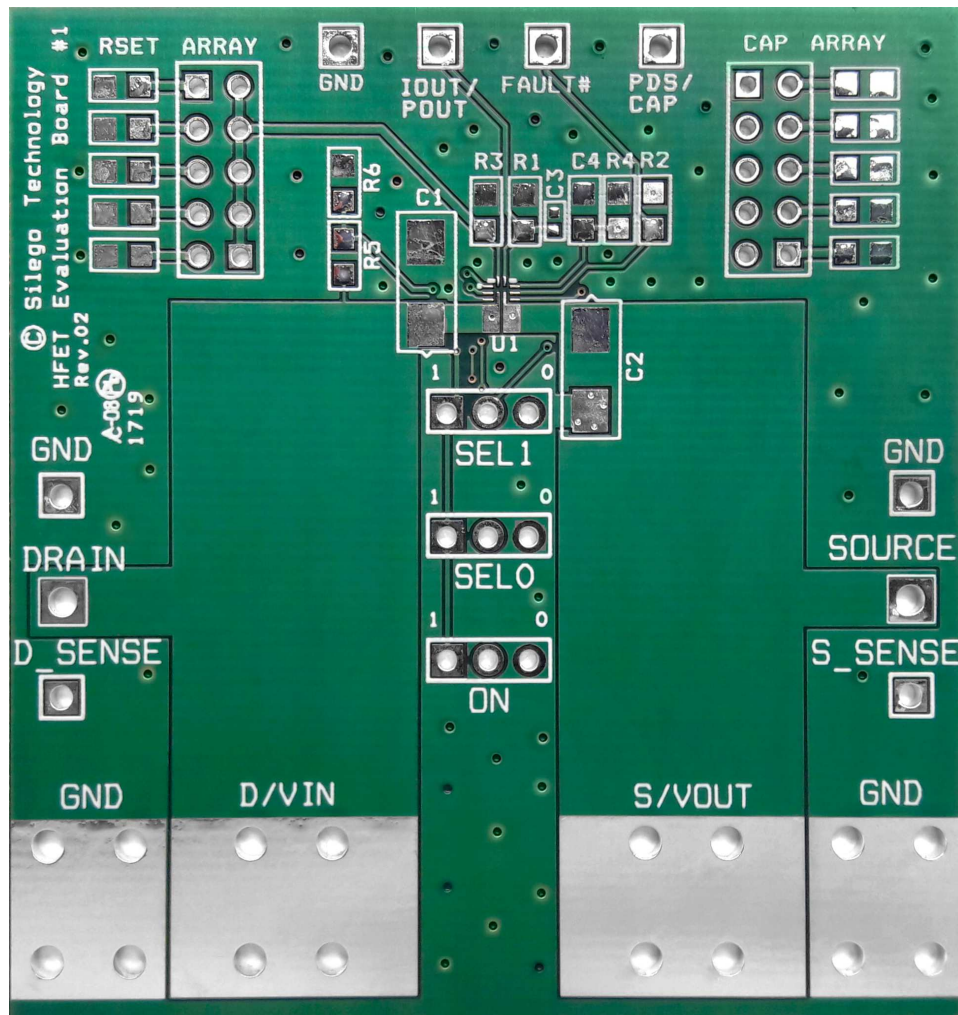

Figure 17. SLG59H1006V Evaluation Board
1. Since the VIN and VOUT pins dissipate most of the heat generated during high-load current operation, it is highly recommended to make power traces as short, direct, and wide as possible. A good practice is to make power traces with an absolute minimum widths of 15 mils (0.381 mm) per Ampere. A representative layout, shown in Figure 17, illustrates proper techniques for heat to transfer as efficiently as possible out of the device;
A High Voltage GreenFET Evaluation Board for SLG59H1006V is designed according to the statements above and is illustrated on Figure 17. Please note that evaluation board has D_Sense and S_Sense pads. They cannot carry high currents and dedicated only for $R_{DS(ON)}$ evaluation.